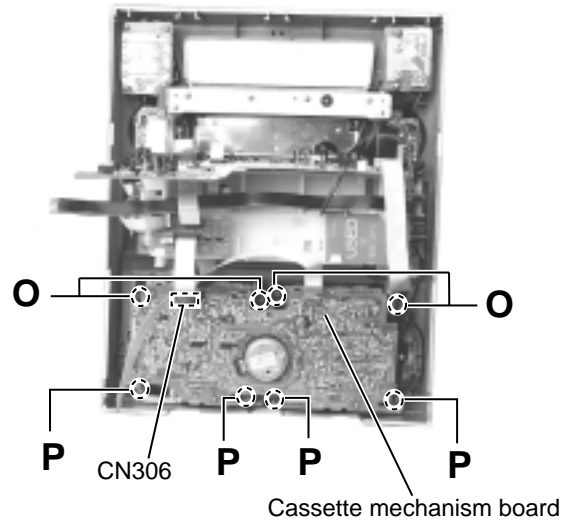

Fig.16
**■ Removing the cassette mechanism assembly (See Fig.16)**